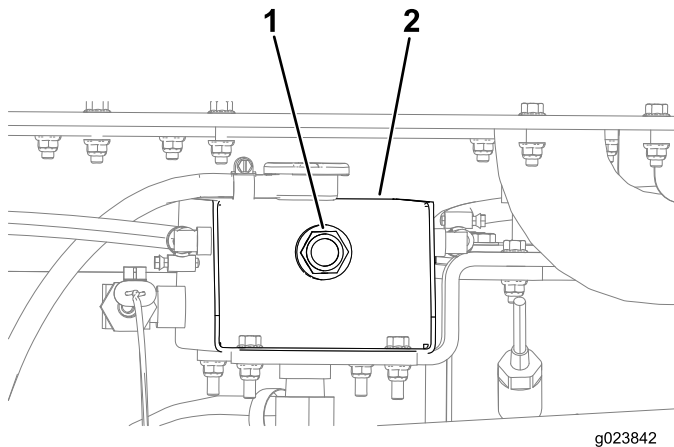

Figure 140
4. Check the coolant level by looking at the sight gauge at the end of the radiator tank (Figure 140).